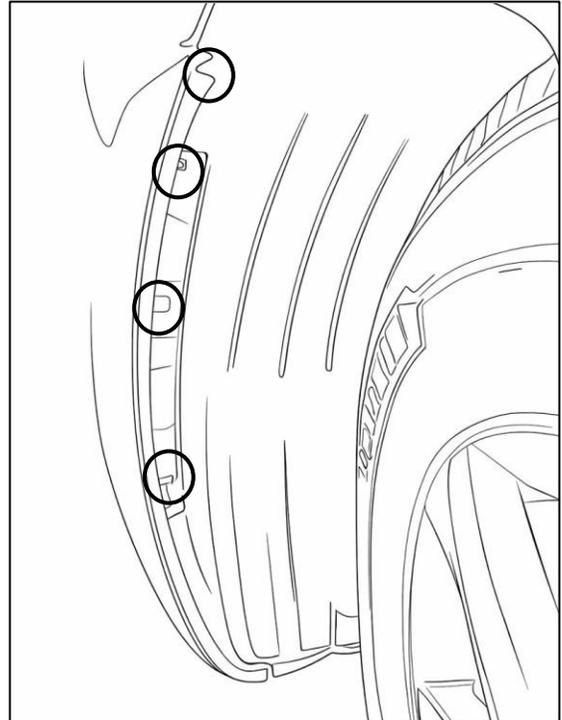

Figure 4: Wheel Well Push-Pins
6.  Use a push-pin remover and a slotted screwdriver to remove the (12) plastic push-pins that are located on the outer edges of the bumper. **See Figures 4 and 5.**